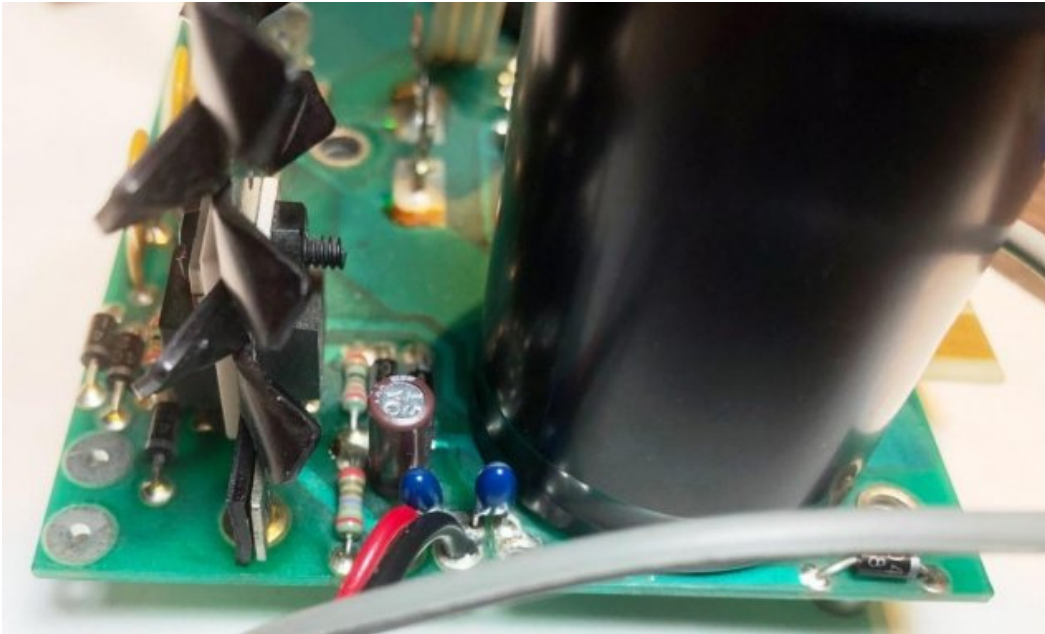

Figure 3: Replaced both tantalum capacitors (Blue color).
- * Desoldered and removed both tantalum capacitors, replaced with new tantalums having same rating as original, 1.5 uF / 35V (Fig. 3).